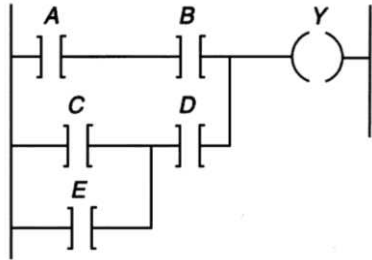

Figure 5-12 Program for question 31.
31. In Figure 5-12, the nested contact is contact 31.____